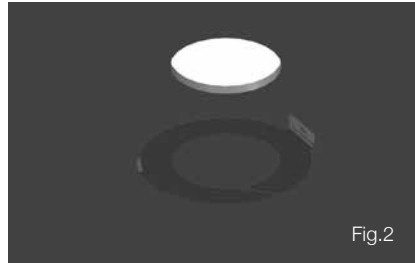

Fig.2
2. Cut out the hole in the ceiling using a pad saw following the broken line indicated on the template. Slide the C-ring into the ceiling, aligning it over the cut-out hole. (Fig. 2)